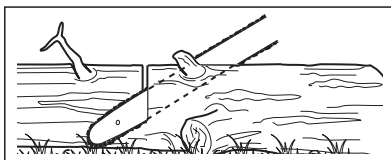

Fig. 12a
1. Follow the simple directions for easy cutting. When the log is supported along its entire length (Fig. 12a), it is cut from the top (overbuck).